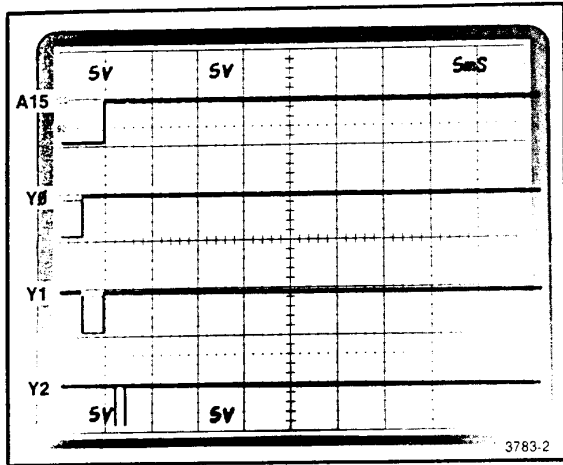

Fig. 4-29. A15 and Y0 through Y2 of address decoder U1021 on the GPIB board.
**GPIB Board Address Decoders.** Address decoder U1021 on the GPIB board sets its outputs low in sequence while the 492P is operating in the microcomputer test mode. Y0 through Y2 are shown in relation to A15 in Fig. 4-29. Although not shown, Y3 through Y7 are asserted in order with the same pulse width.